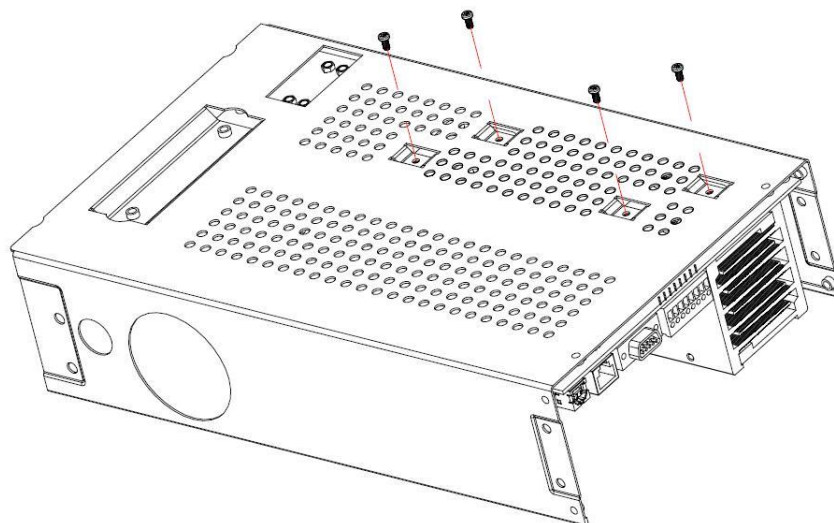

Figure 3-9
3.6.2 Remove the 4pcs M3 screws at the bottom of the metal rack(Figure 3-9).